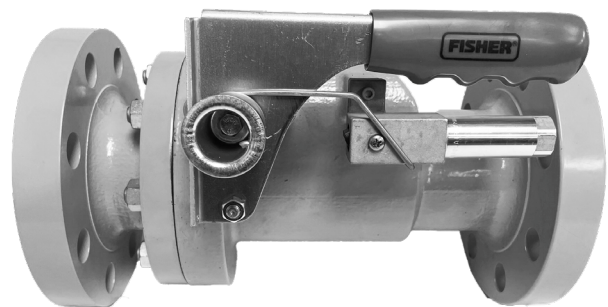

Figure 2. Type N551-24F in Closed Position
**Types N551-24F and N851-24F are Types N551 and N851 with flanged connections (Figure 2).**